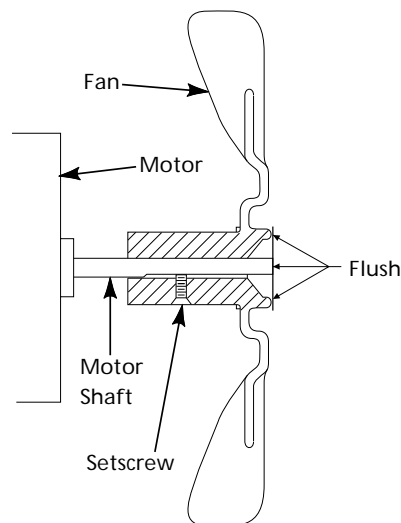

Figure 7 - Fan Cross Section
6. Replace fan on motor shaft. Place fan hub flush with end of motor shaft (See Figure 7).